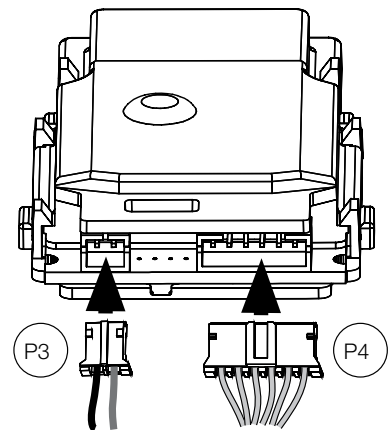

Figure 24
1. Connect P3 (2-pin connector) from lockbody to J3 on module. (Figure 24)
2. Connect P4 (6-pin connector) from lockbody to J4 on module. (Figure 24)